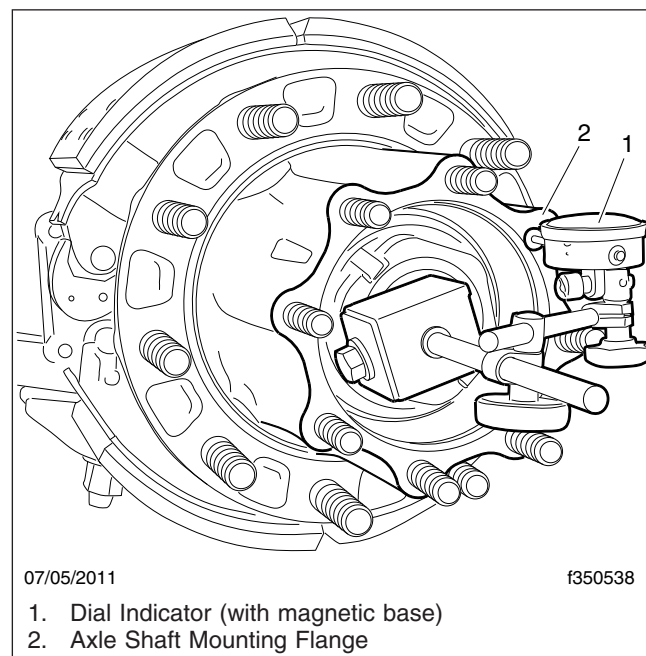

Fig. 7, Dial Indicator Setup
- 12.1 Attach the magnetic base of a dial indicator to the spindle, and place the measuring end of the indicator squarely against the flange as shown in Fig. 7.